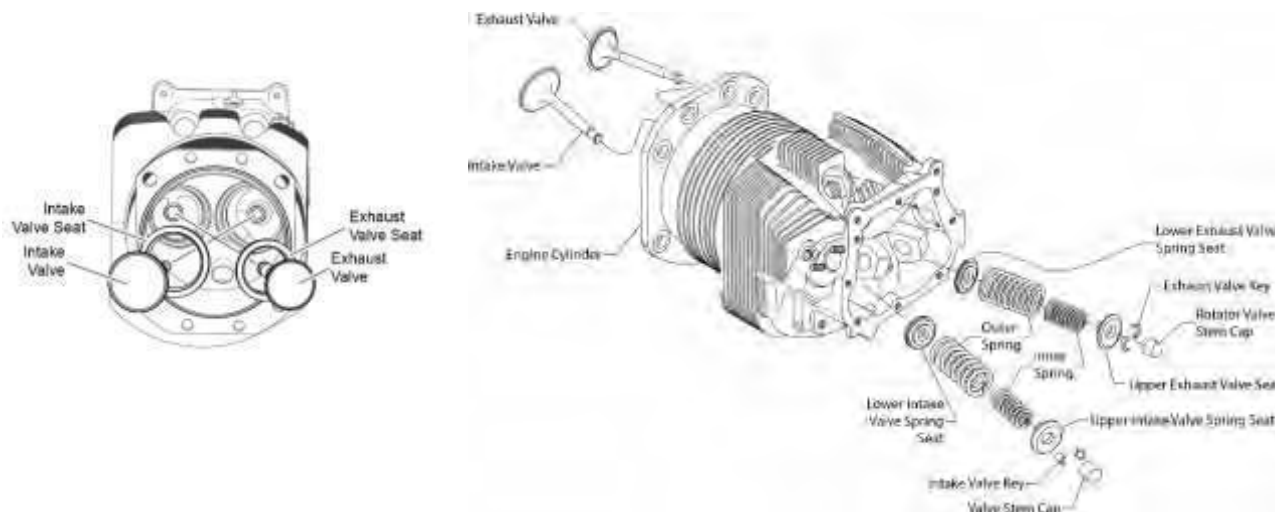

Figure 25
(1) Remove the cylinder from the engine per the “Cylinder Removal” procedure in this chapter.
(2) Remove the intake valve stem cap (Figure 25).
(1) Apply lubricant identified in the latest revision of Service Instruction No. SI-1059 to the intake valve stem.
(2) Install a serviceable intake valve in the valve guide (Figure 25), through the cylinder barrel.
(3) Install the valve spring seats and valve springs,
(4) Use a Valve Spring Compressor Tool (ST-25) to compress the intake valve spring and install the valve stem key.
(5) Install the intake valve stem cap on the intake valve.
(6) Install the cylinder on the engine per the “Cylinder Installation” procedure in this chapter.
- (1) Remove the cylinder from the engine per the “Cylinder Removal” procedure in this chapter.
- |(2) Remove the rotator valve stem cap (Figure 25).
- (3) Use a Valve Spring Compressor Tool (ST-25) to compress the exhaust valve spring and remove the valve stem key.
- (4) Remove the valve spring seats and valve springs from the exhaust valve.
- (1) Apply lubricant identified in the latest revision of Service Instruction No. SI-1059 to the exhaust valve stem.
- |(2) Install a serviceable exhaust valve in the valve guide (Figure 25), through the cylinder barrel.
- (3) Install the valve spring seats and valve springs,
- (4) Use a Valve Spring Compressor Tool (ST-25) to compress the exhaust valve spring and install the valve stem key.
- (5) Install the rotator valve stem cap on the exhaust valve.
- (6) Install the cylinder on the engine per the “Cylinder Installation” procedure in this chapter.